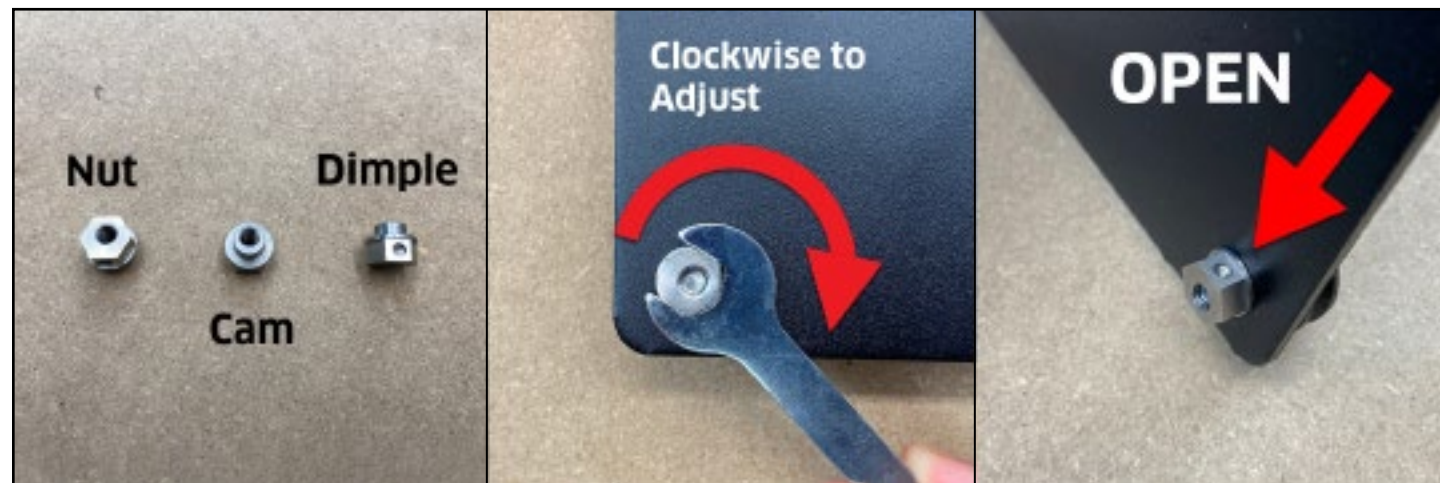

Figure 3-4
Our HD eccentric nuts, in combination with the attached V-wheel, operate as a cam, converting the rotational motion of turning the nut, into linear motion at the V-wheel. A dimple on one the side of the nut indicates the furthest point to center of the offset threads. When the dimple is facing UP, the distance between the top and bottom wheel is at its greatest and the V-wheels are OPEN. When the dimple is facing DOWN, the opposite is true, and they are CLOSED. See **Figures 3-4** and **3-5**.
2. Use the 10mm wrench and turn all six (6) eccentric nuts **CLOCKWISE** until the dimple is facing **UP**. Refer back to **Figure 3-4**.